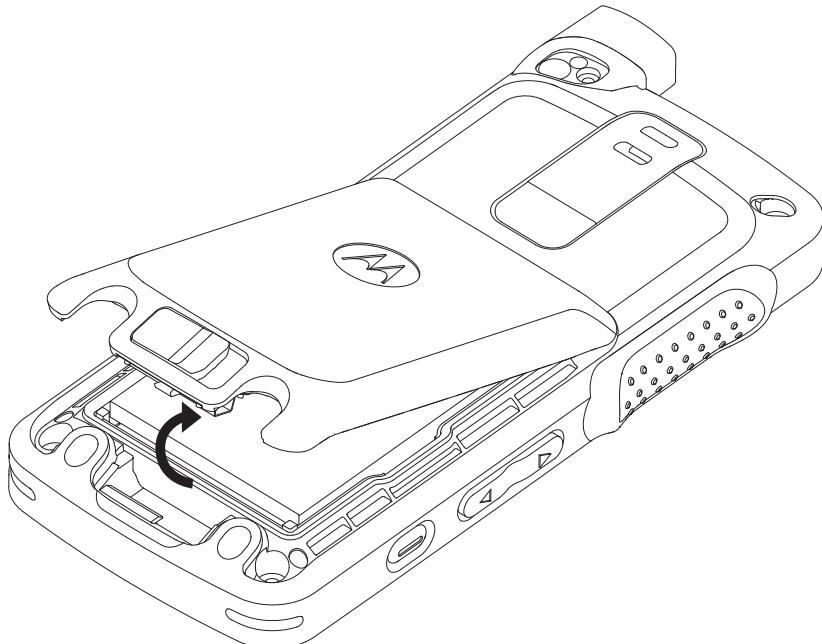

Figure 5-5. Battery door removal
2. Remove the battery door by lifting it upwards as shown in Figure 5-5.